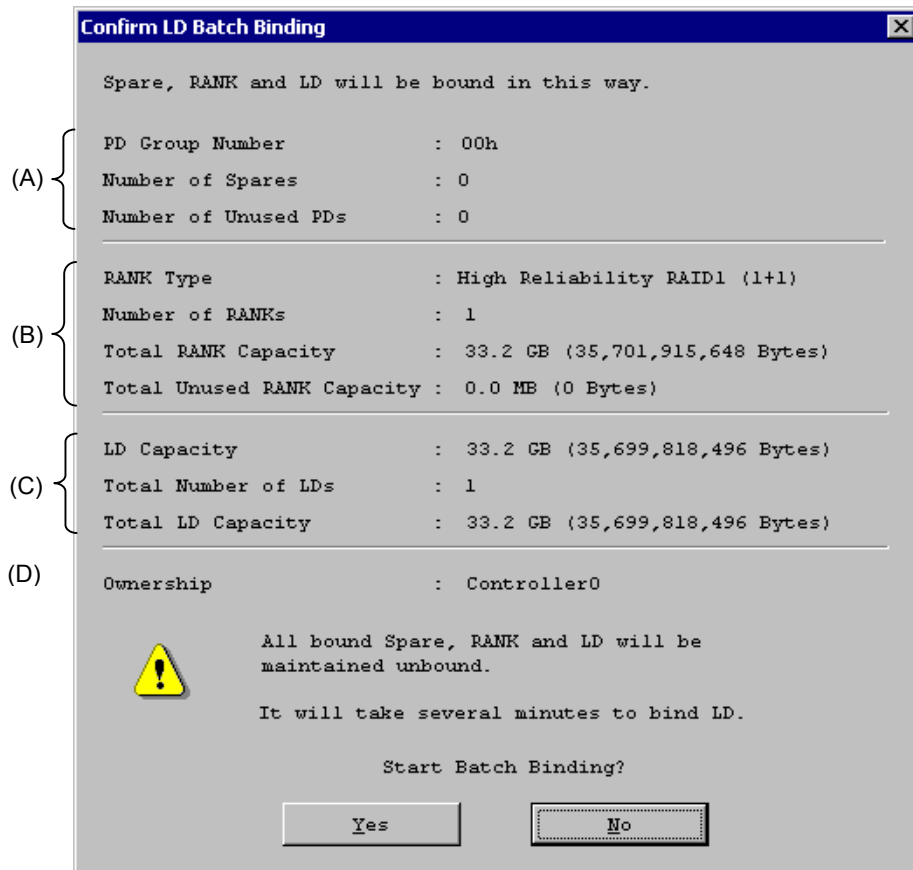

Figure 8-24 Confirm LD Batch Binding Screen
(6) Confirm LD Batch Binding screen
Click the [OK] button after entering the required parameters into the LD Batch Bind screen described in (5) to display the confirmation screen shown in Figure 8-24.